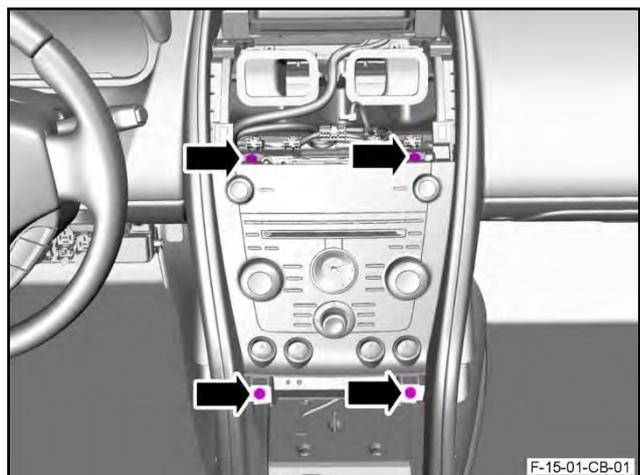

Figure 89
- 123. Install and tighten the four screws that attach the centre stack assembly to the IP (refer to Figure 89).